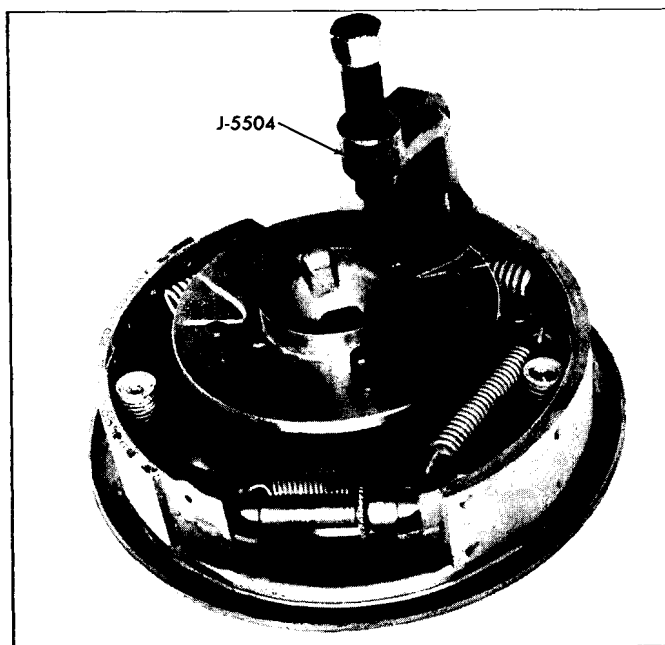

Fig. 10-10 Removing Rear Stud
1. Remove stud using J 5504 as shown in Fig. 10-10.